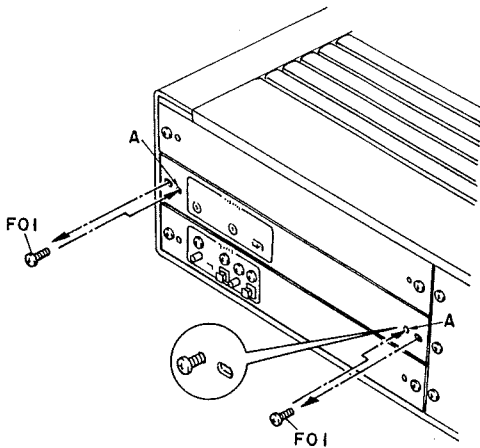

Fig. 2.7.1
Refer to Figs. 2.7.1 and 2.7.2.
- (1) Loosen screws F01 (2 pcs.) and screw them into holes A. See Fig. 2.7.1.